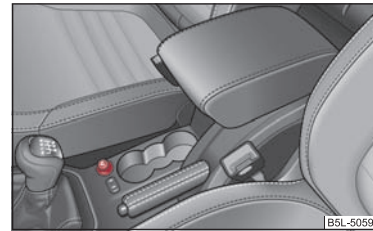

Fig. 85 Centre console: Cigarette lighter
- Press in the button of the cigarette lighter ⇒ fig. 85.